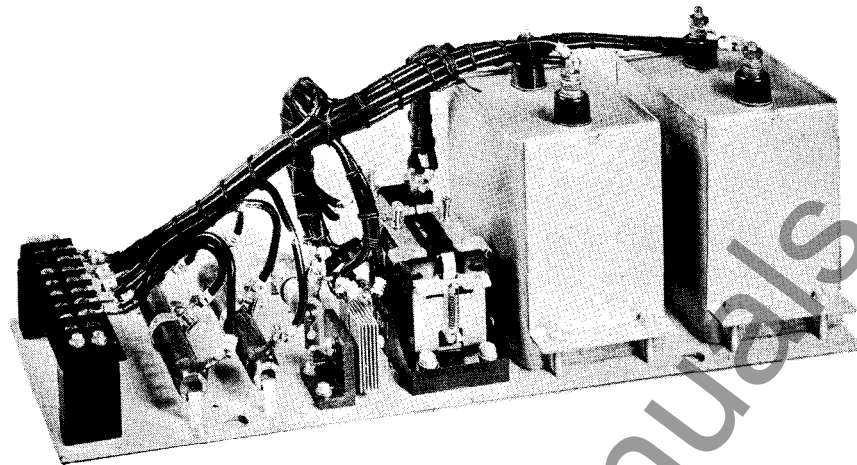

FIG. 2
Figure 2 shows the arrangement of the equipment when used with the 120 cam switch. Here, in addition to all of the aforementioned equipment, is mounted the motor capacitor and a 400 ohm resistor.
Now, let us consider the RC "DynAC Brake" shown in Figure 2. This RC "DynAC Brake" will be connected into the circuit as shown in Figure 7. The operation of the RC "DynAC Brake" and associated control equipment is as follows:
If we now consider the operation of the RC "DynAC Brake" of Figure 2 when operating in the lower direction, we will see a slight difference in the initial operation only. The operation of the RC "DynAC Brake" and associated control equipment is as follows:
- a. First close the MCL contacts. This will energize the SL relay and the RC "DynAC Brake" relay simultaneously. The RC "DynAC Brake" relay will be energized through the SR5 contact. As the two relays, the SL and the RC "DynAC Brake", are energized simultaneously, it has been necessary to introduce an additional time delay into the RC "DynAC Brake" relay to assure that the SL motor control relay will have definitely completed its operation prior to the closing of the BC contacts of the RC "DynAC Brake" relay. This delay has been obtained by the introduction of a 400 ohm resistor in the RC "DynAC Brake" relay. This additional resistor, used only in the RC "DynAC Brake" relay of Figure 2, has been fully explained both as to its purpose and how it accomplishes same under the DESCRIPTION portion of this Instruction Leaflet.